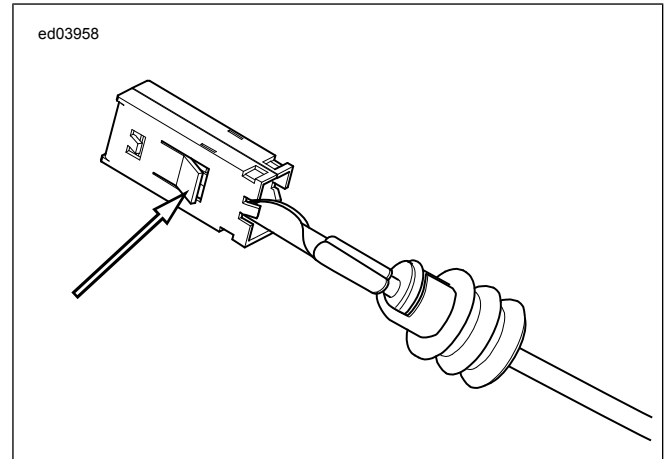

Figure B-6. Tangs: Bosch Compact 1.1M Terminal
1. See Figure B-6. Use a hobby knife to bend the tangs on each side of the terminal outward.